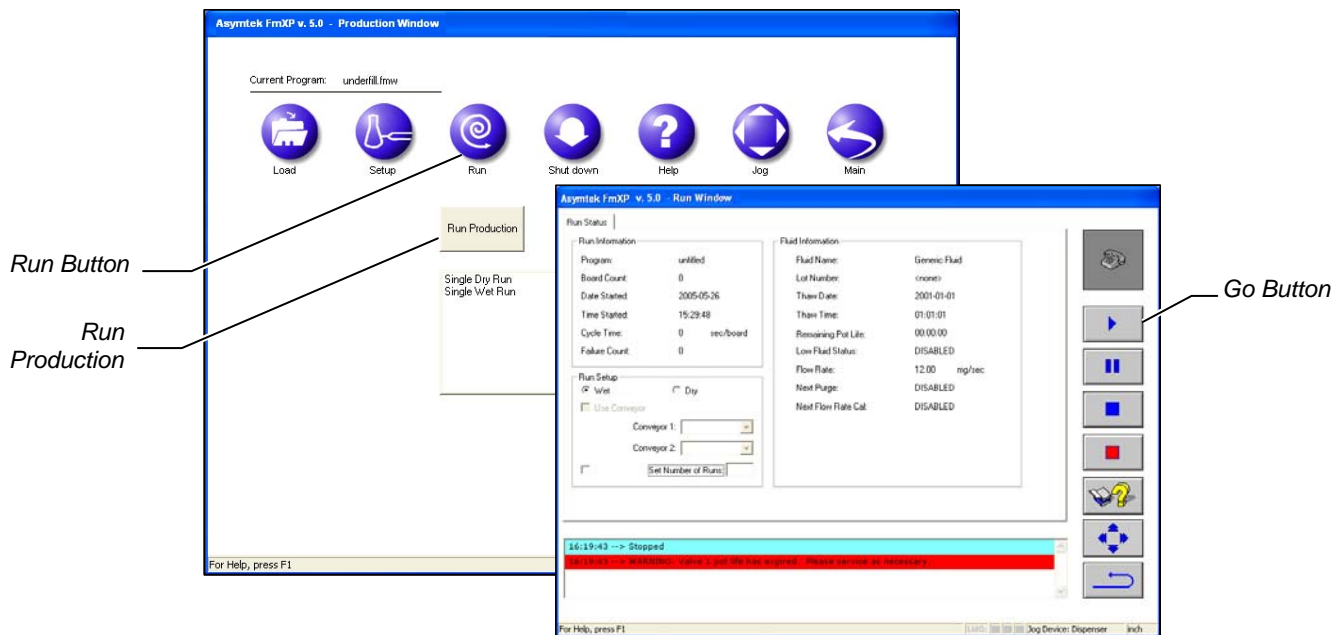

Figure 3-18 Production Window – Run Program
7. In the Production Window, click on **Run** and then click on the **Run Production** button (Figure 3-18).
10. Click on **Go** to start the dispensing process (Figure 3-18).